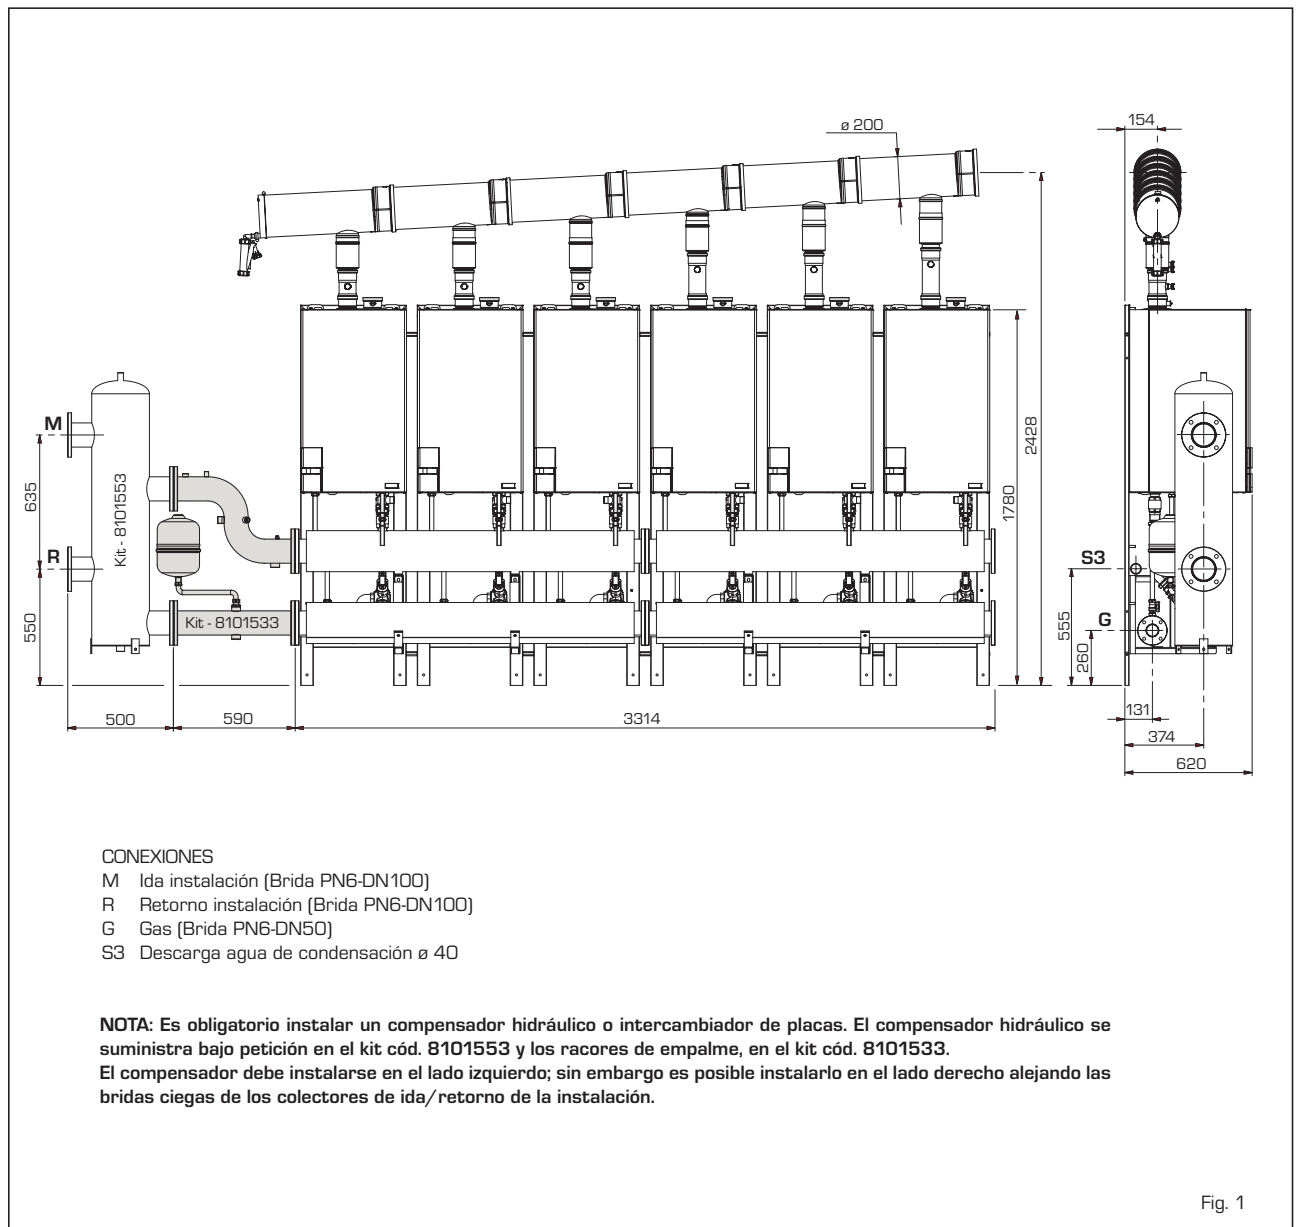

Fig. 1
1.2 DIMENSIONES Y EMPALMES (Fig. 1)